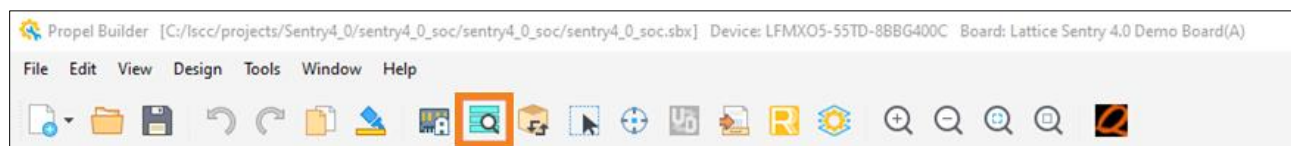

Figure 4.10. Propel Builder Validate Icon
12. Choose **Design > Validate** or click the Validate icon to validate the SoC project (Figure 4.10).